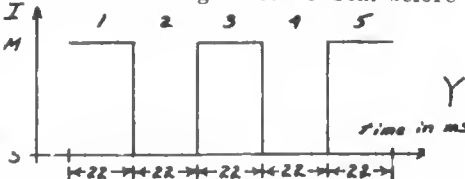
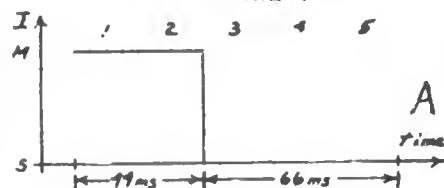

FIGURE 1
FIGURE 2
4. For a more precise shift use two capacitors, a 33 pf and a 3-12 ceramic trimmer across the diode, adjust the trimmer for exact 170 hz shift. Figure 2.
In amateur telegraphy, the length of a "time-slot" (a single mark or a single space) is 22 ms (0.022 seconds). For example, in the oscilloscope pattern in Figure 1 each mark and each space is exactly 22 ms long. In the pattern shown in Figure 2, the mark is 44 ms (2 X 22) long and the space is 66 ms (3 X 22) long.